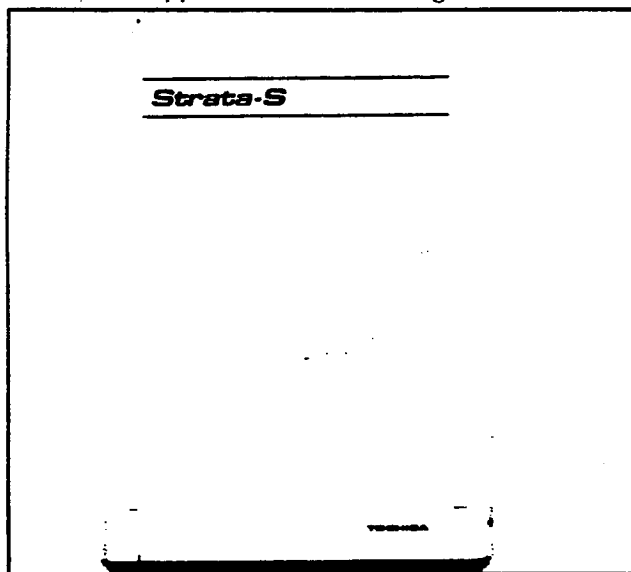

FIGURE 2—WALL MOUNTED MKSU
7) Refer to Section 100-003-250, *MPSA-512 Installation* (or Section 100-003-255, *MPSA-200 Installation*), and follow the appropriate instructions for installing the selected MPSA. A completed installation with an MPSA-512 should appear as shown in Figure 2.